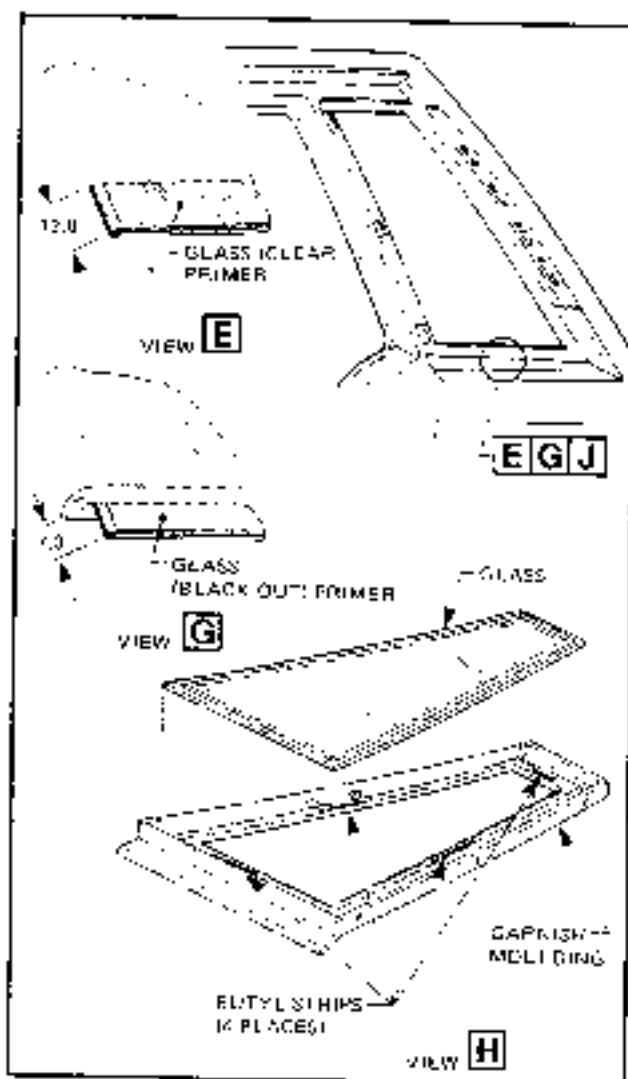

Figure 1A-24
8. Install screws securing garnish moulding to the top and sides of the window aperture (refer Fig. 1A-25).